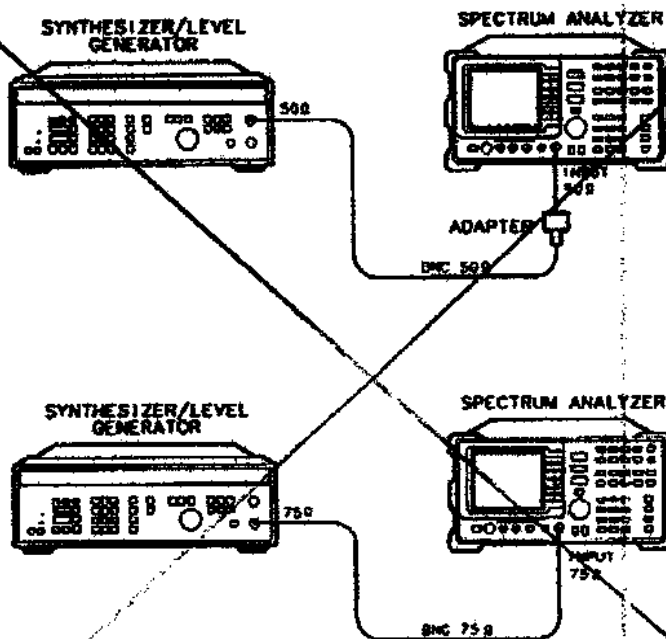

Figure 2-25. Frequency Response for 4 MHz Setup
17. Using a cable, connect the HP 3335A directly to the INPUT 50Ω. (See Figure 2-25.)
(Option 001: Using a 75Ω cable, connect the HP 3335A from the 75Ω OUTPUT to the INPUT 75Ω. Set the HP 3335A 50-75Ω switch to the 75Ω position. See Figure 2-25.)